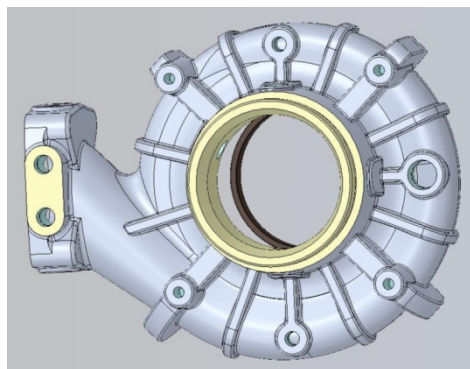

Figure 40. Clearance Ring Driven Out-Volute
- D. Using a chisel and hammer, drive clearance ring out of volute. See Figure 40.